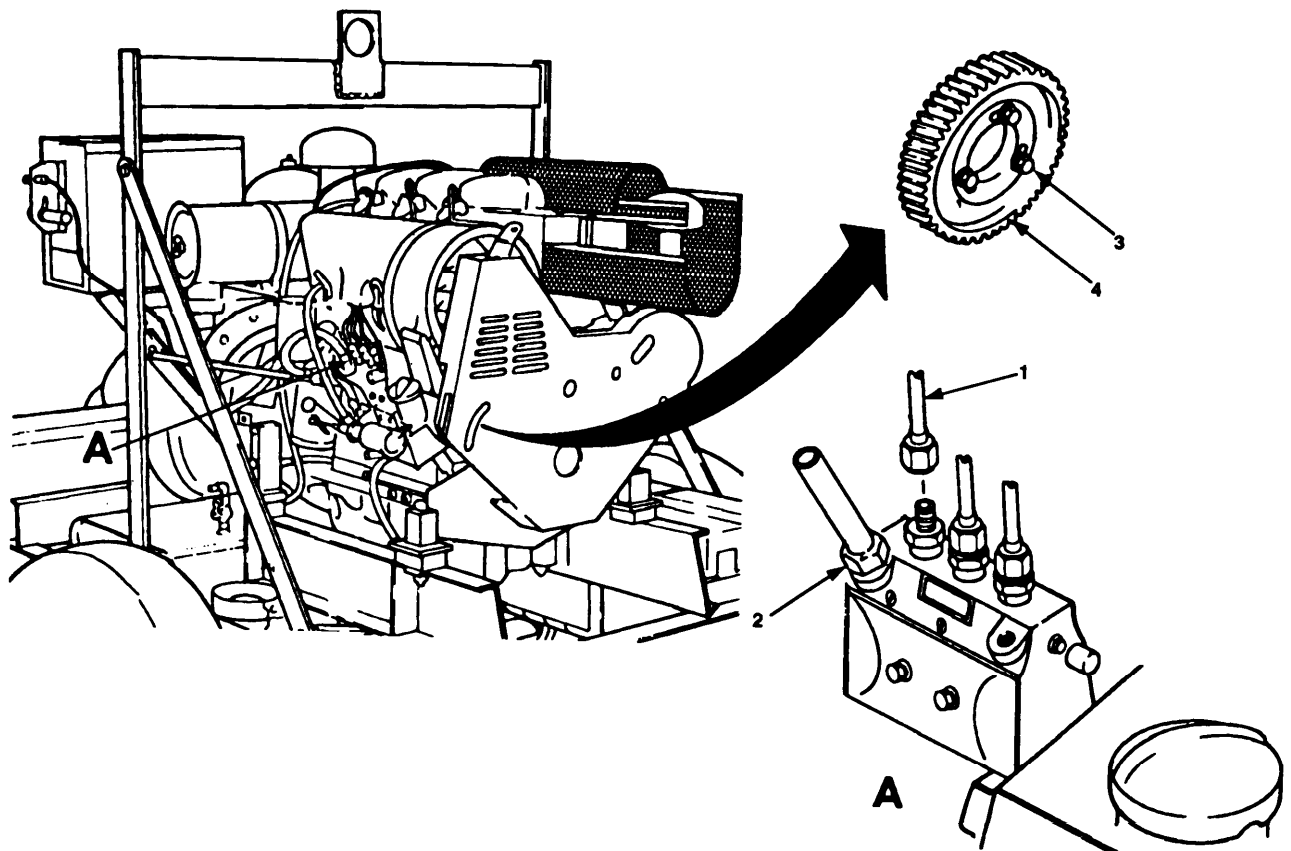

Figure 5-2. Fuel Injection Pump Timing.
- a. Remove Number 1 injection line (figure 5-2, 1) from fuel injection pump and install spill pipe in its place.
- b. Disconnect main fuel supply line (2) from fuel injection pump and connect high pressure line of high pressure hand pump in its place.
- f. Loosen three bolts (3) that secure fuel injection pump drive gear (4) .
- h. Holding gear in position, tighten three bolts (3) that secure fuel injection pump drive gear (4) .
- k. Disconnect high pressure line of high pressure hand pump from fuel injector pump and connect main fuel supply line (2).